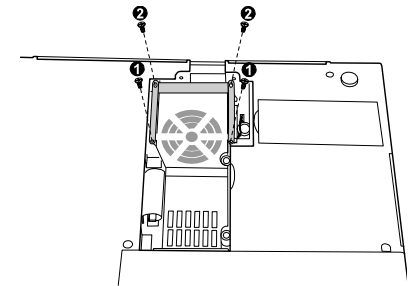

Figure 5-10. Removing the screws
4. Place the metal plate on top of the fan assembly. Secure the fan assembly with four screws, first the bottom screws (❶) and then the upper screws (❷). (Refer to Figure 5-10 earlier.)